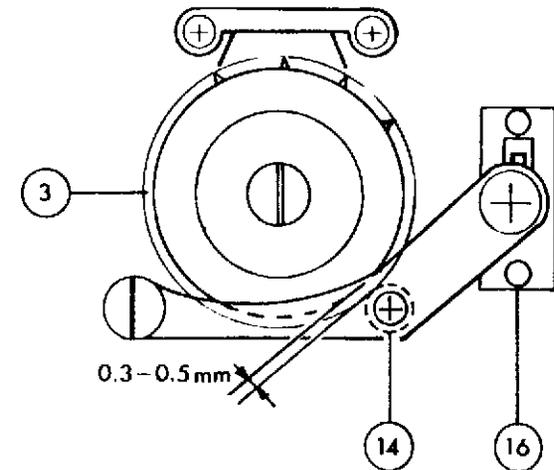

Fig. 9
1. Attach (6)(7) in place there is backlash at gear on back of (6)(7).
2. Inspect (3)(4) for no burrs or no scratch.
3. Inspect (14)(18) for no burrs or no scratch.
4. Adjust the position of (16) so that there is clearance of 0.3mm - 0.5mm between (14) and the bottom land of (3) as shown in Fig. 9.